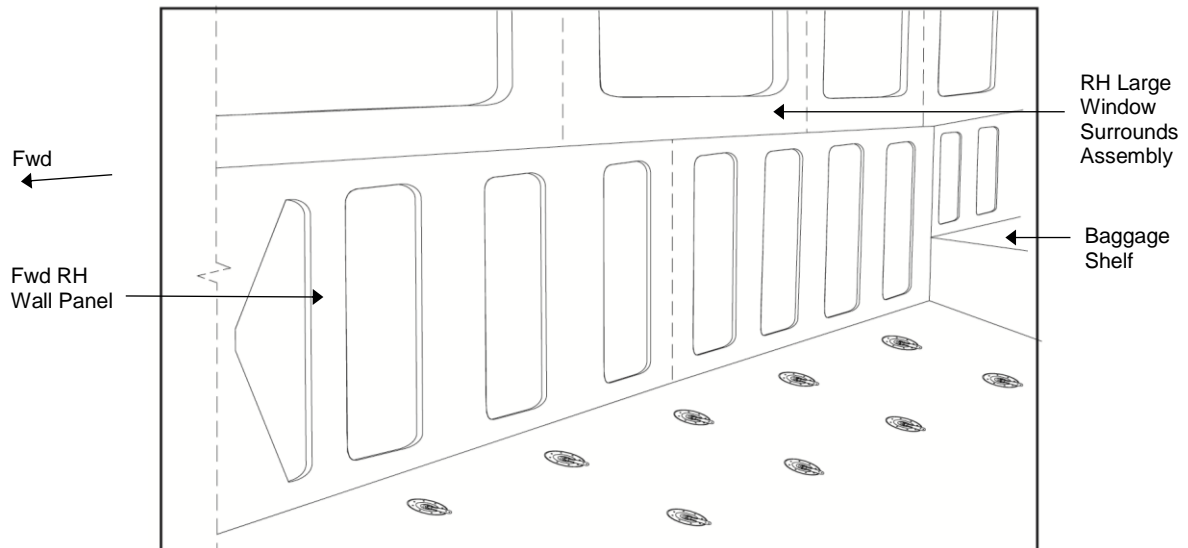

Figure 8: RH Interior Trim Panels
- 2) Remove Fwd RH Wall Panel (GA8-252014-052) (See Figure 8).
- 4) Remove the RH Large Window Surrounds Assembly (GA8-252014-037) (See Figure 8).